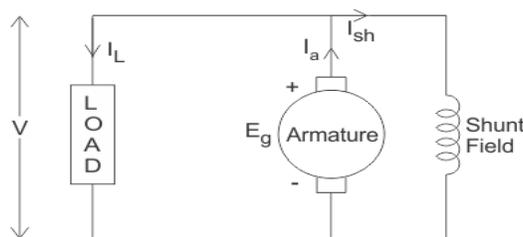

Fig. 4.9
i) **Shunt generator:** In this generator, shunt field winding and armature winding are connected in parallel through commutator and carbon brush as shown in fig. 4.9.